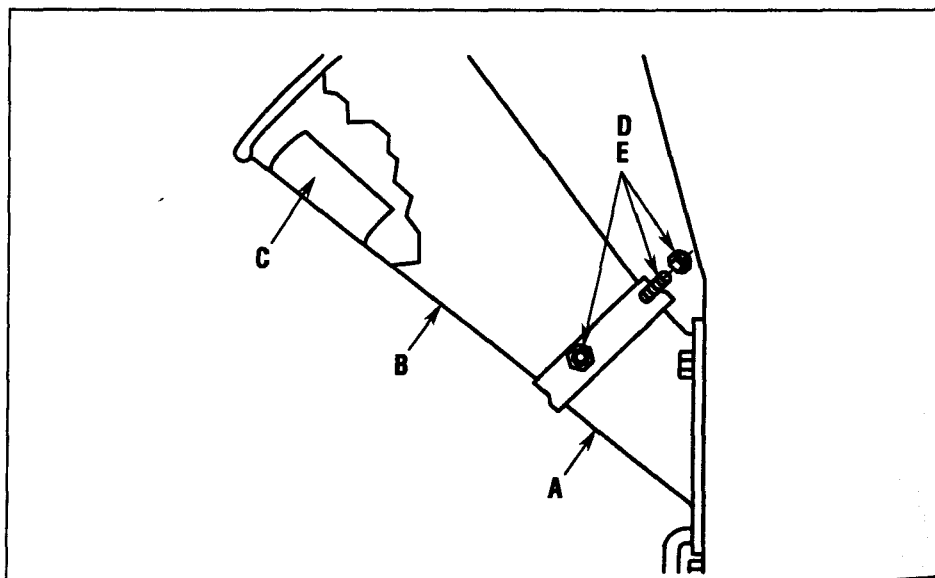

Figure 2-2: Install chipper chute.
1. Find the safety message decal (C, Figure 2-2) located inside the large opening of the chipper chute (B).
2. Insert the small end of the chipper chute (B, Figure 2-2) into the chipper chute mounting base (A) and align the four square holes in the chipper chute with the four round holes in the mounting base. Check that the safety message decal (C) is positioned as shown in Figure 2-2.
3. Reach inside the chipper chute and insert four 1/4"-20 x 5/8" round head carriage bolts (D, Figure 2-2) out through the four holes. Add 1/4"-20 toplock nuts (E) and tighten securely.